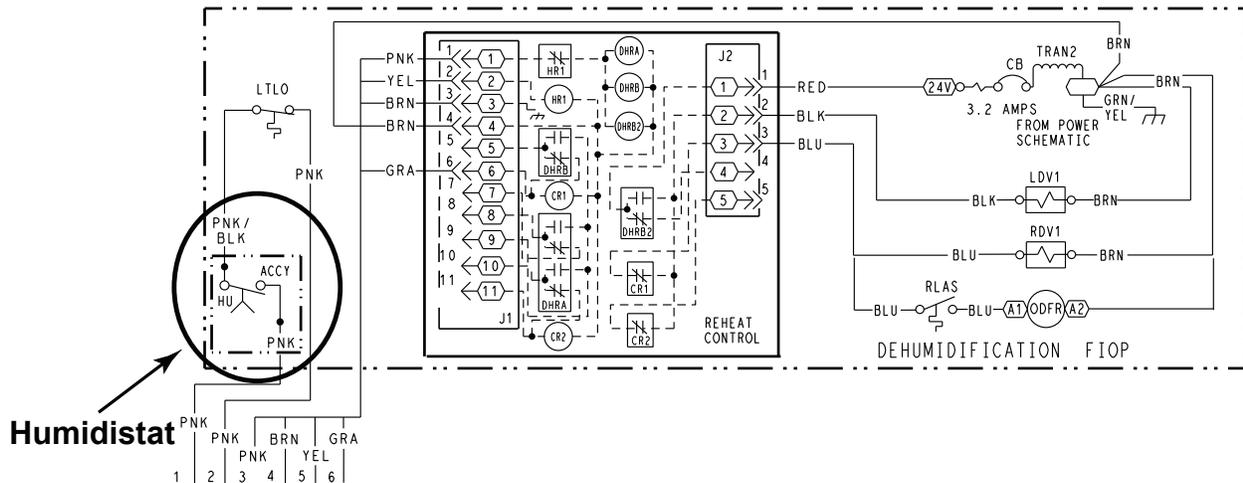

Fig. 62 — Typical Humidi-MiZer Adaptive Dehumidification System Humidistat Wiring
3. Use wire nuts to connect humidistat cable to two PINK leads in the low-voltage wiring as shown in Fig. 62.